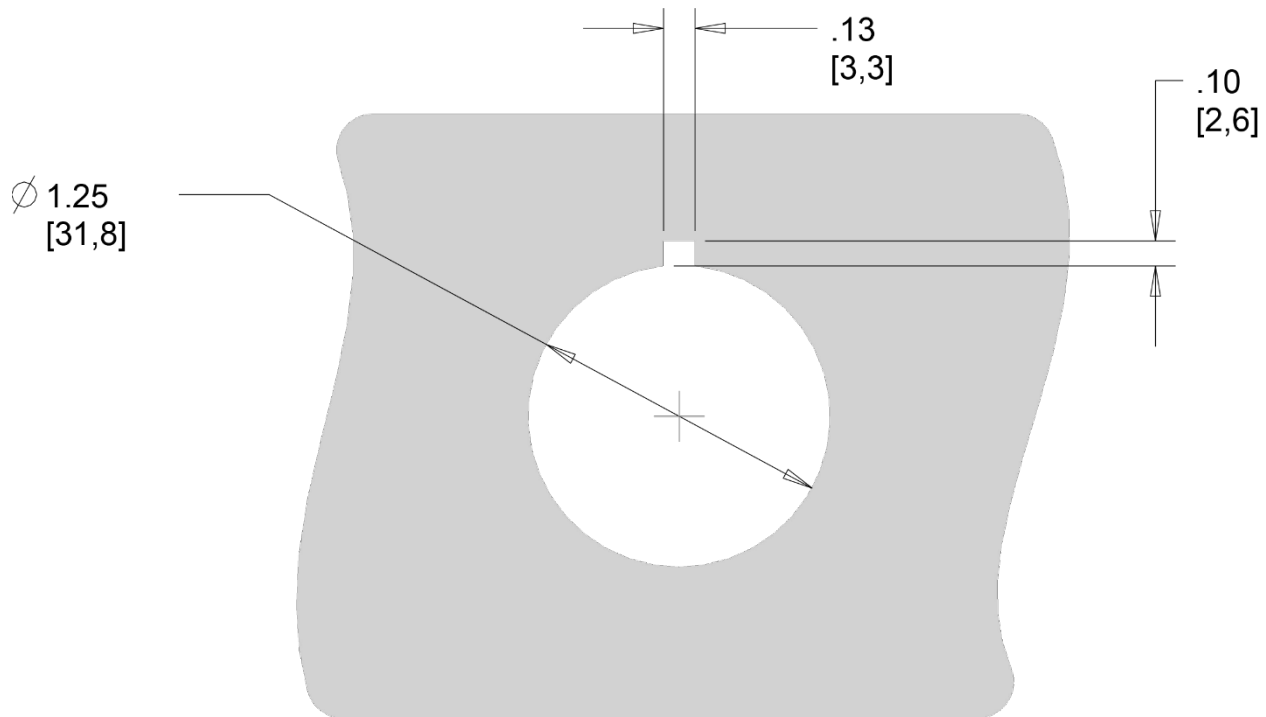

Figure 1: Mounting location
3. Drill out a circle in the mounting location with a 1 ¼ inch drill bit using the measurements in Figure 1. Then, cut the notch in the top of the hole.